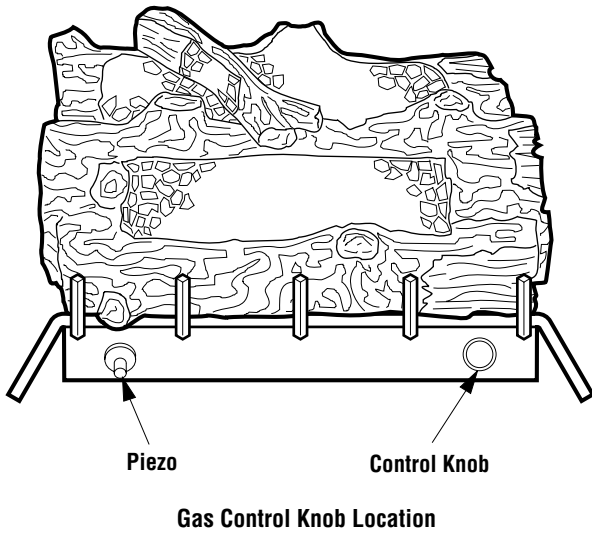

Figure 15
3. Refer to *Figure 15* to locate gas control knob and piezo.